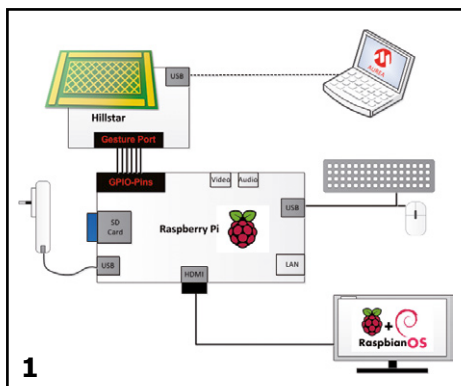

Figure 4. Note the unique mix of 3D Gesture (Flick E \rightarrow W; Flick N \rightarrow S) and Touch (Center).
5. After finishing, at the left side click on 'GesturePort' and you see the configuration for the events. If you click on 'Flash' in the upper right corner the configuration shown in Figure 4 is saved in the MGC3130 chip.